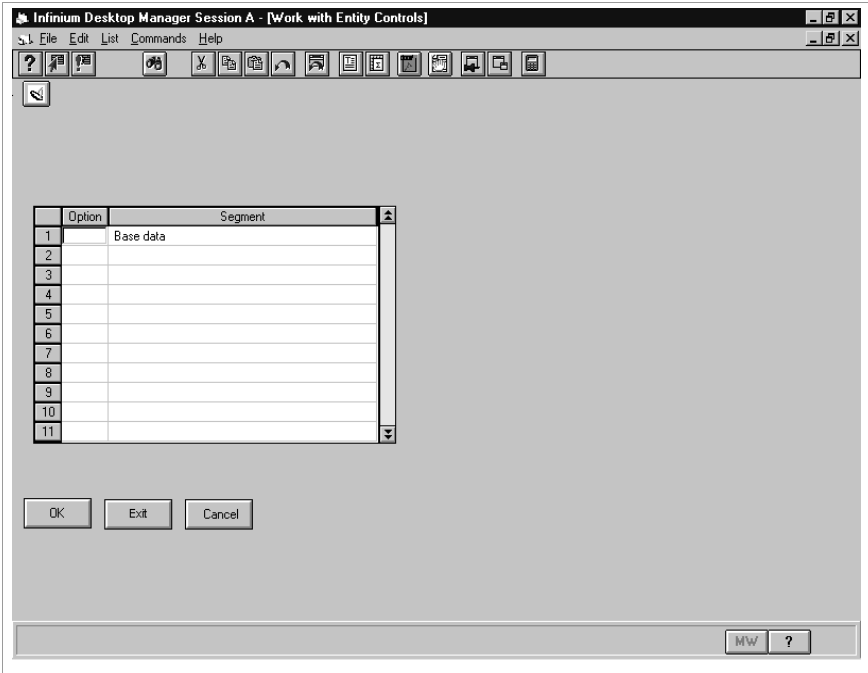

Figure 2-2: Work with Entity Controls screen
- 2 Select *Work with entity controls* [WVEC]. The system displays a screen similar to Figure 2-2.